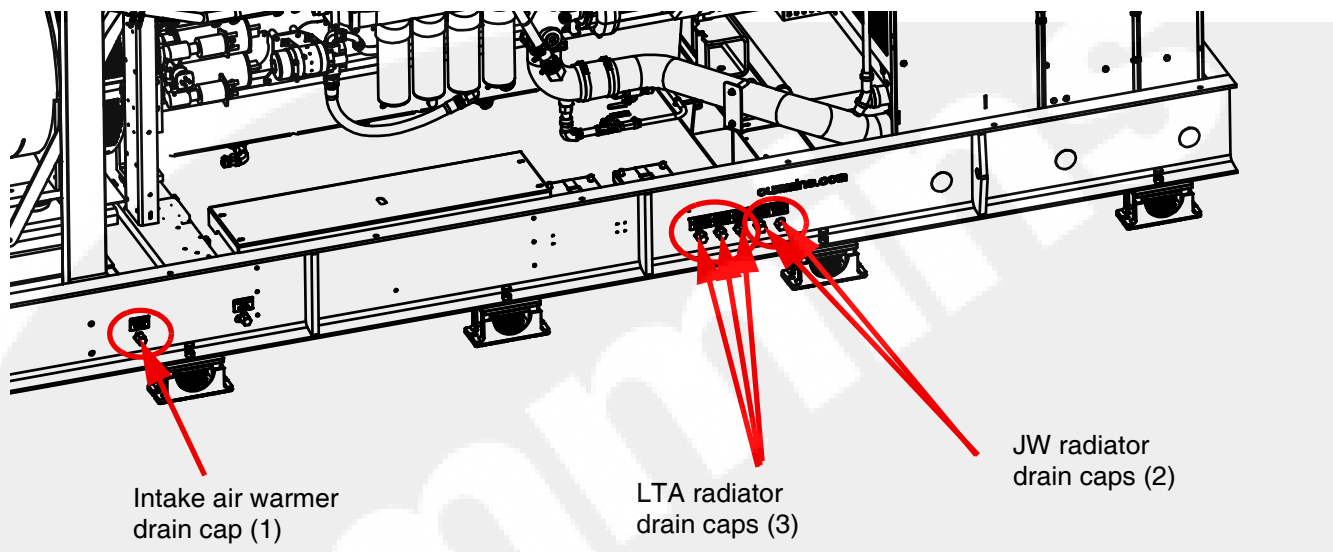

Figure 7-24 GenSet coolant drain caps (GenSet right side)
6. Remove the JW and LTA (five, total) coolant drain caps (shown in Figure 7-24). If installed, remove the intake air warmer coolant drain cap.